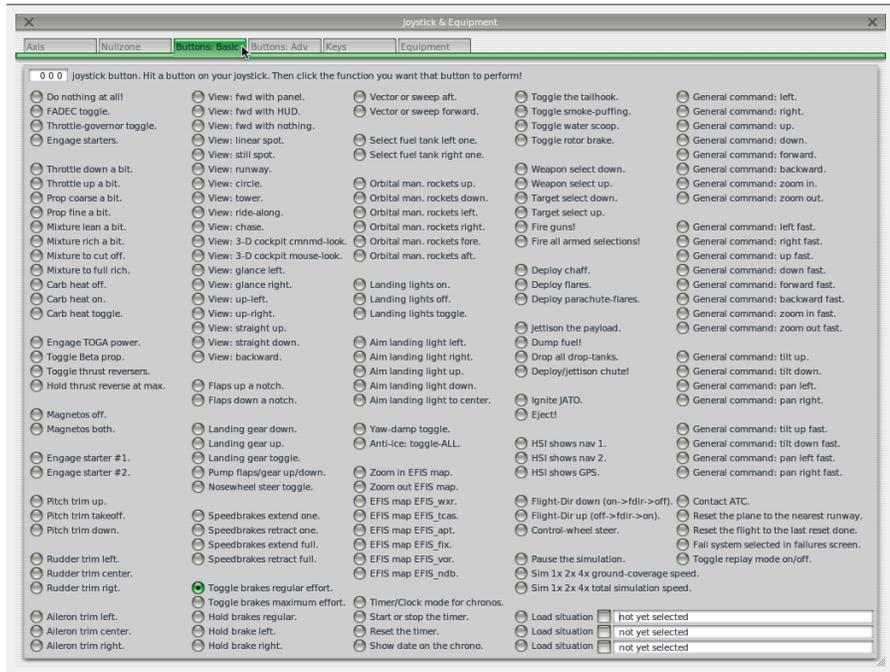

Figure 2.5: The Buttons: Basic tab of the Joystick & Equipment menu, with a button set to **Toggle brakes regular effort** [Full size →]
10. Using the mouse, click the round button to the left of **Toggle brakes regular effort** (found near the bottom of the second column and already selected in Figure 2.5).